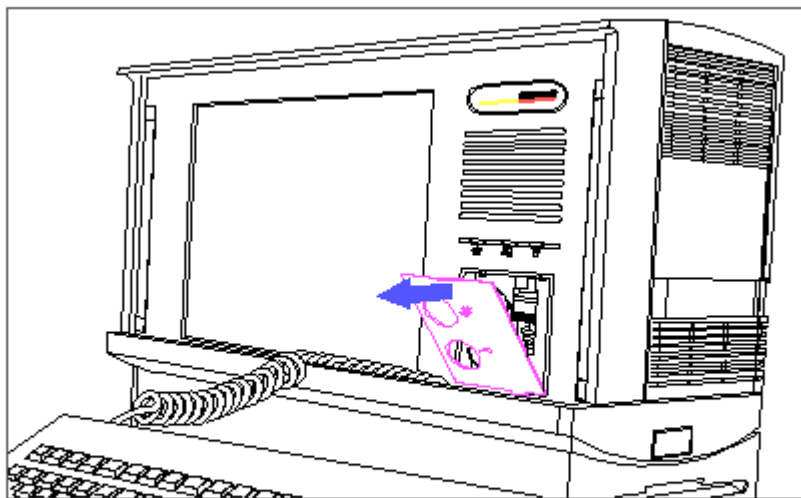

Figure 5-3. Removing the Access Cover
2. Using a nonconductive probe, remove the access cover (Figure 5-3).